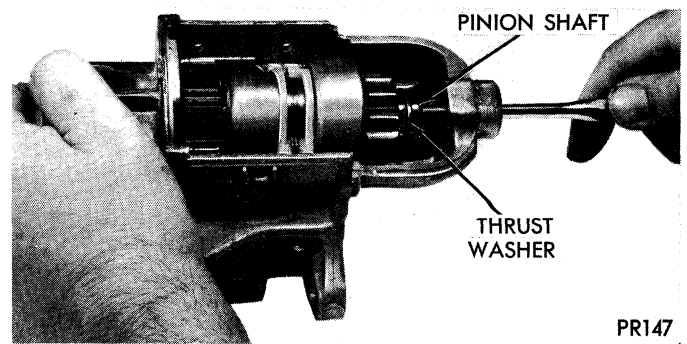
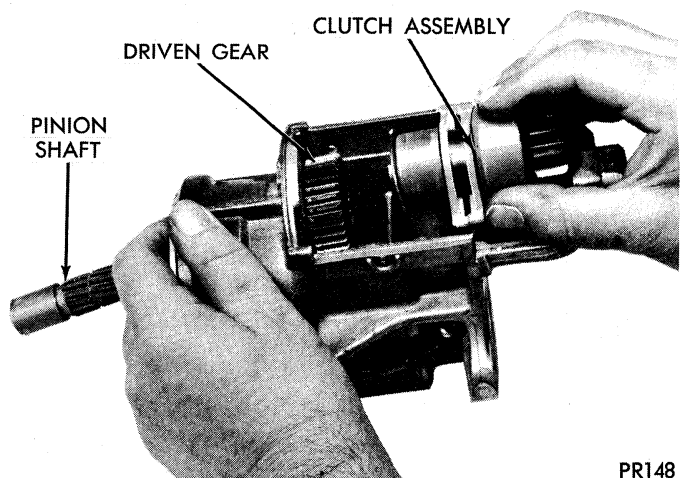
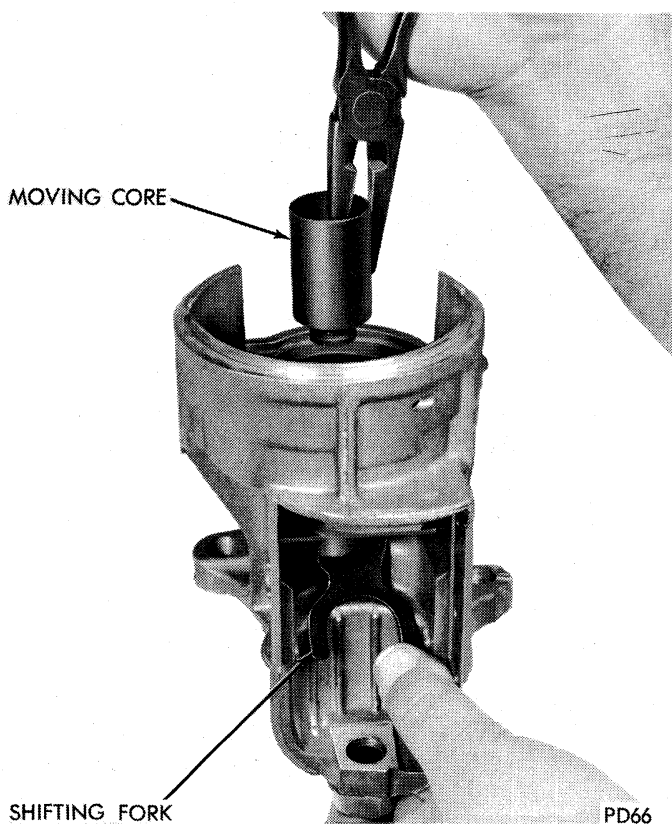

Fig. 21—Removing Pinion Shaft
Fig. 22—Removing Clutch Assembly
Fig. 23—Removing Solenoid Core
- (18) Push pinion shaft towards rear of housing (Fig. 21) and remove retainer ring and thrust washers, clutch and pinion assembly, with the two shift fork nylon actuators as an assembly (Fig. 22).
- (19) Remove driven gear and friction washer.
- (20) Pull shifting fork forward and remove solenoid moving core (Fig. 23).
(2) Install solenoid moving core and engage shifting fork (Fig. 23).
(3) Enter pinion shaft into drive housing and install friction washer and drive gear.
(4) Install clutch and pinion assembly, thrust washer, retaining and thrust washer (Fig. 22).